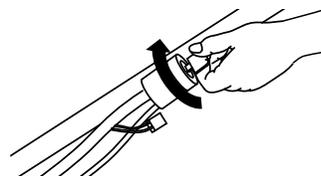
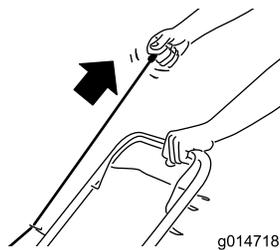

Figure 16
Figure 17
2. Turn the ignition key (electric-start models only; refer to Figure 16) or pull the recoil-start handle (Figure 17).